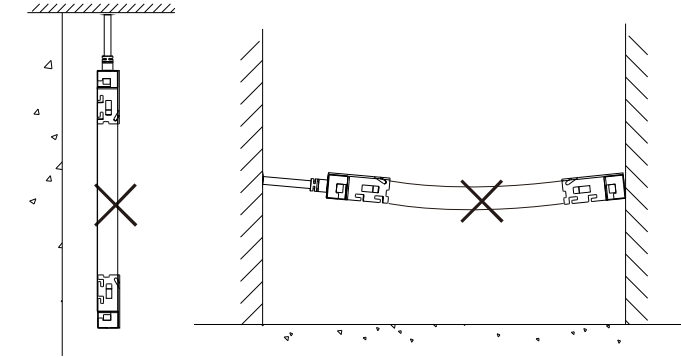

Fig. 5 Unit cutting guide
11. Cutting at wrong location will result in a failure of light! See Fig. 5.